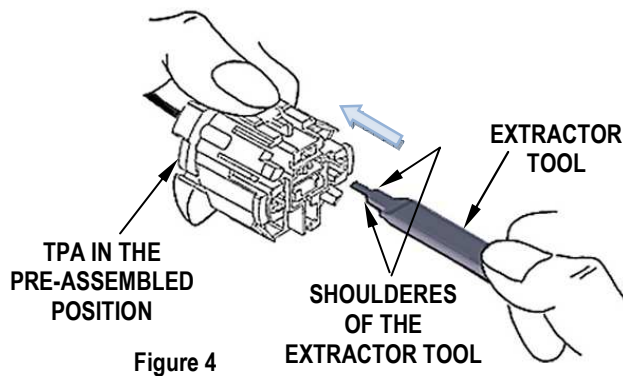

Figure 4
2. Insert the extractor tool into the slot above the terminal in the housing from the opposite side of the TPA until the extractor tool shoulders stop against the housing. This will compress and push the terminal back to overcome the primary lock located in the housing. See Figure 4.